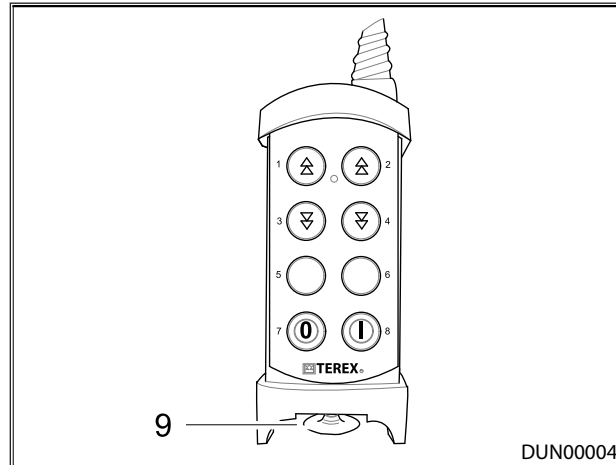

Figure 7.36 - Radio Tracking Transmitter Layout
2. Press and hold both Radio Start buttons on the Radio Handset (items 9 & 0) in Figure 7.36, for 3 seconds.
4. Press the Tracks Start button on the Radio Handset (items 6) in Figure 7.36.
5. At this stage pressing the various Track direction buttons (items 1 to 4) will engage the respective track solenoid.